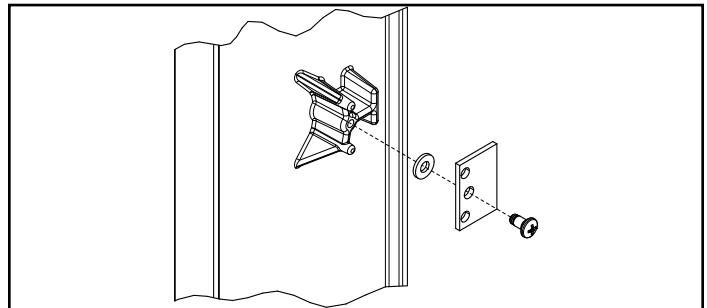

Figure 5.13
**NOTE:** Due to variances in cast manufacturing, it may be required to add a 1/4 inch SAE washer to the surround assembly between the securing brackets and the mounting location (**Figure 5.13**).